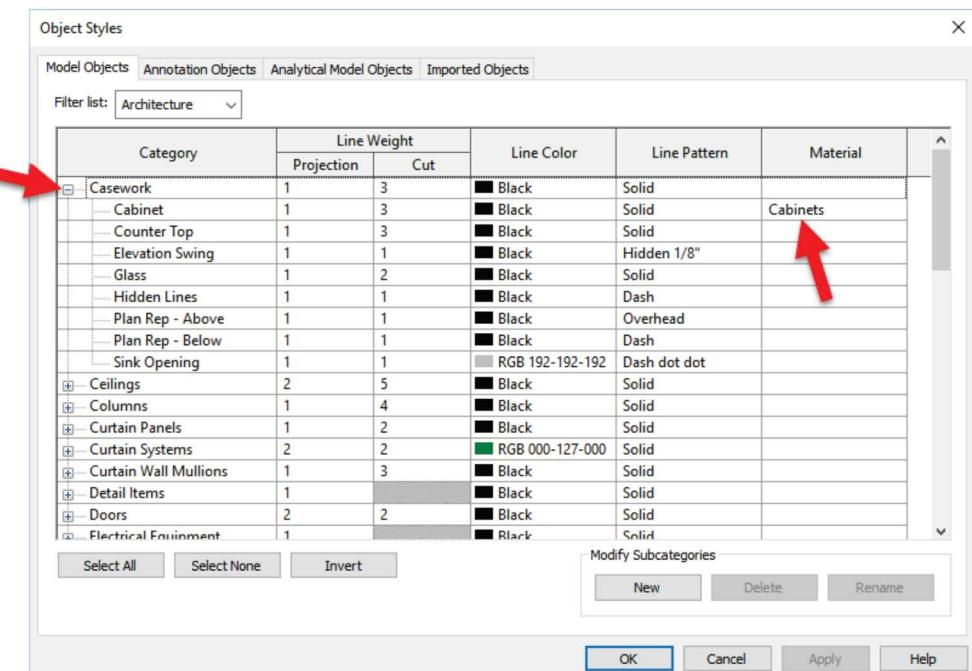

FIGURE 14-3.7 Object Styles dialog
17. Expand the **Casework** category (Figure 14-3.7).